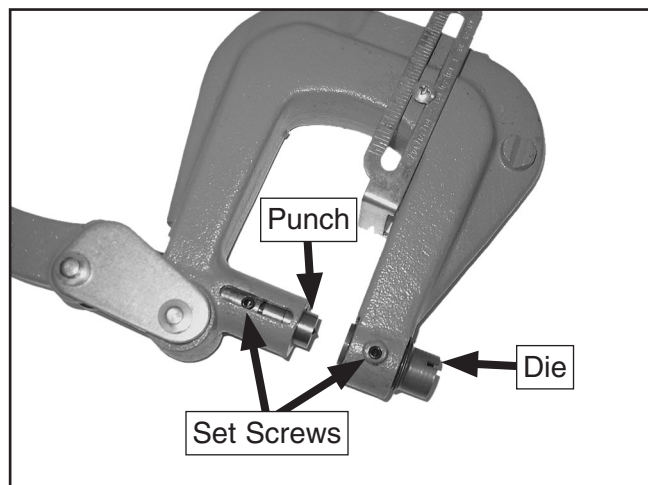
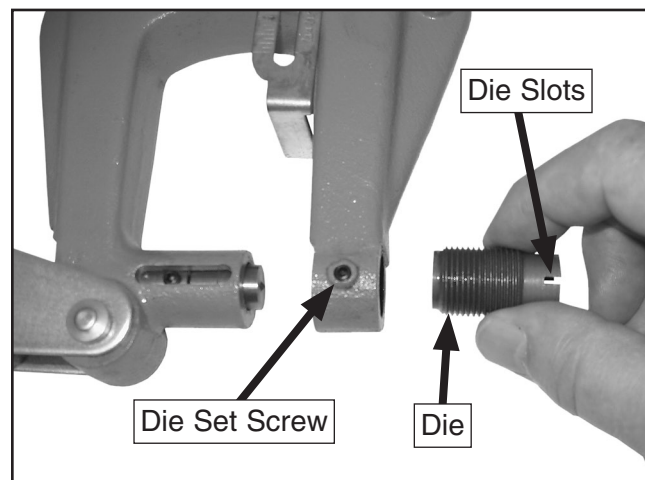

Figure 2. Punch and die set installed.
Figure 4. Positioning the die for threading it into the hand punch.
1. Use the included hex wrench to loosen the two set screws that secure the punch and die (see **Figure 2**).
3. Position the die as shown in **Figure 4**, then thread it into the hand punch until it is slightly above the top surface (see **Figure 2**).